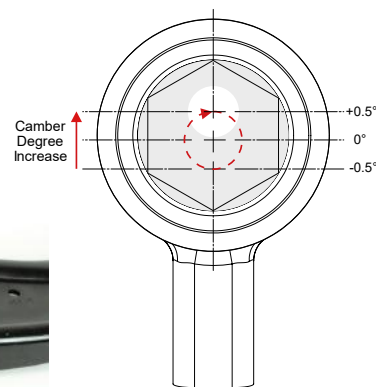

Figure 2
6. For maximum camber, use the supplied spanner to rotate the sleeve so that the bore is positioned as shown in figure 2.